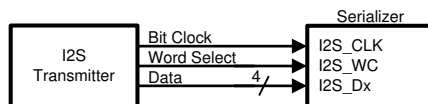

Figure 15. I²S Connection Diagram
The DS90UB949-Q1 serializer features six I²S input pins that, when paired with a compatible deserializer, supports 7.1 High-Definition (HD) Surround Sound audio applications. The bit clock (I2S_CLK) supports frequencies between 1 MHz and the lesser of IN_CLK/2 or 13 MHz. Four I²S data inputs transport two channels of I²S-formatted digital audio each, with each channel delineated by the word select (I2S_WC) input. Refer to Figure 15 and Figure 16 for I2S connection diagram and timing information.